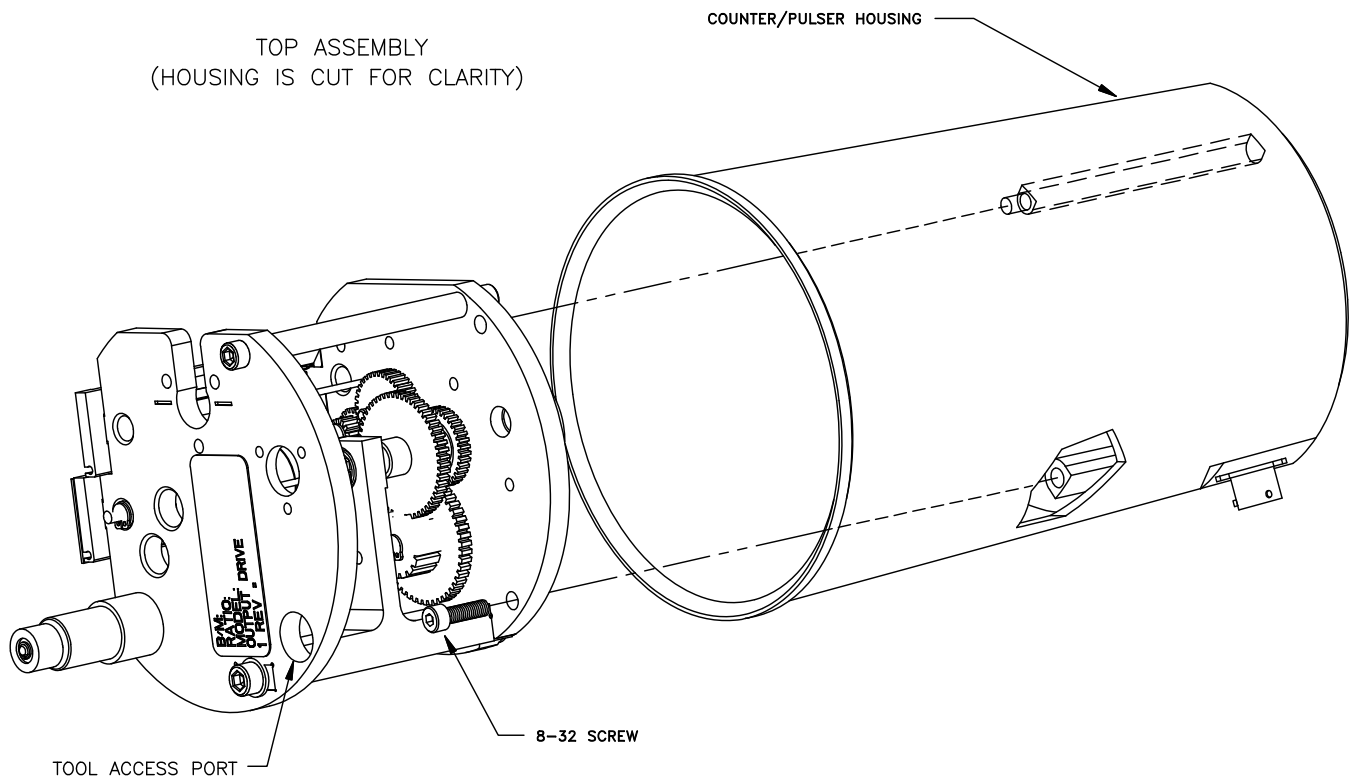

Figure 4
8. Line up the counter assembly with the new Pulser accessory housing by lining up the odometer window. Slide the counter assembly into the housing while holding the # 8-32 screw in its perspective hole with the 9/64 Allen® wrench (use the tool access hole). Tighten the # 8-32 screw to 20-in-lb. **See Figure 4.**